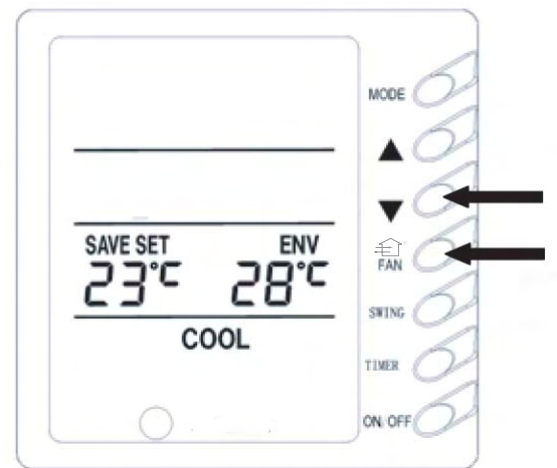

Fig 9
8) SAVE set up (Fig.9)
The above setting has been completed, the system will display "SAVE" icon, no matter by buttons on displayer or the wireless remote control, the setting temperature should not exceed the former SAVE setup temperature range, for example as show in Fig. 9, we set up the cooling lower limit is 23℃ in SAVE setting, the upper limit is 27℃ , the user can set the cooling temperature between 23℃ to 27℃ by the wireless remote control and buttons on displayer.